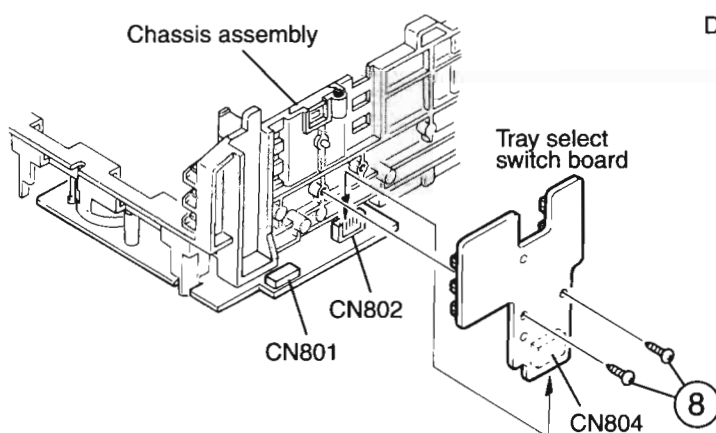

Fig.15
3. Remove the two screws 8 retaining the tray select switch board(See Fig.15).
## ■ Removing the cam unit (See Fig.15 ~18 )
2. While turning the cam gear L, align the pawl "N" position of the drive unit to the notch position(Fig.15) on the cam gear L.